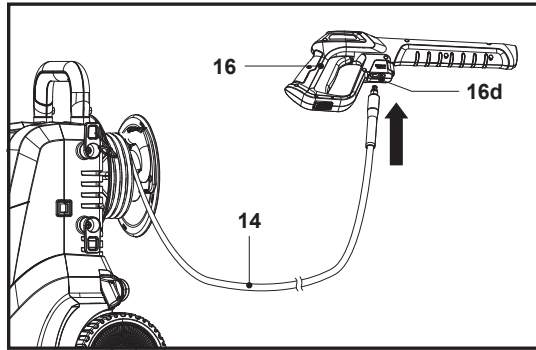

Fig. 7
1. Gently tug on the pressure hose (14) to pull it out. We suggest fully unwinding the pressure hose (14) before operation.
2. Push the tip of the pressure hose (14) into the hose connector (16d) on the spray gun (16) until the end with a click (Fig. 7).